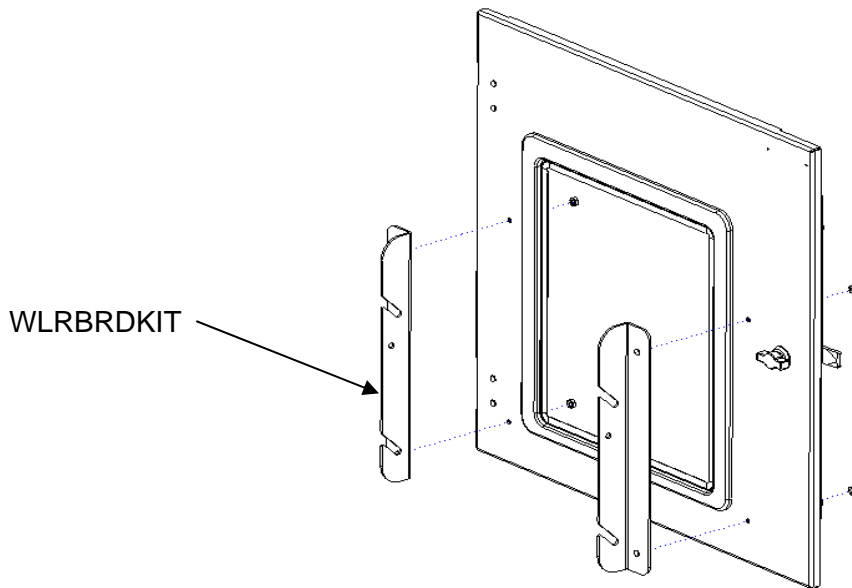

Fig. 2.4 Door Bracket Assembly
6. Assemble Door Brackets (WLRBRDKIT) as shown in Fig 2.4 with angled slots pointing up and close to plastic sealing ring. Securely tighten the 4 lock nuts.